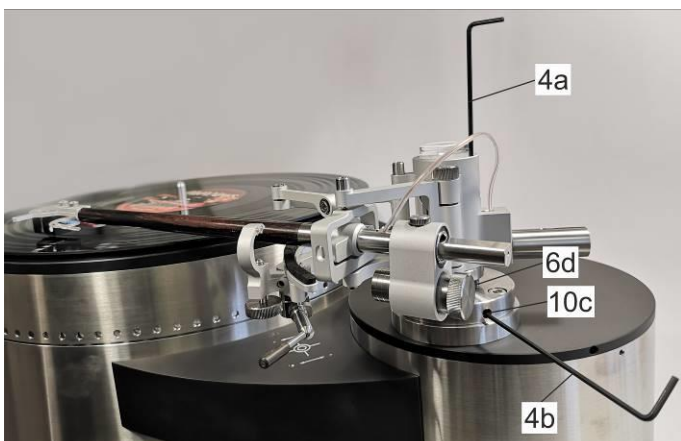

Figure 20
- c) Loosen the tonearm base fixing screw [10c] with hex (allen) key [4b] (Figure 20).
- d) Adjust armwand height by making it parallel to the record. To regulate height, screw in or out VTA adjustment screw [6d] with hex (allen) key [4a] (Figure 20).